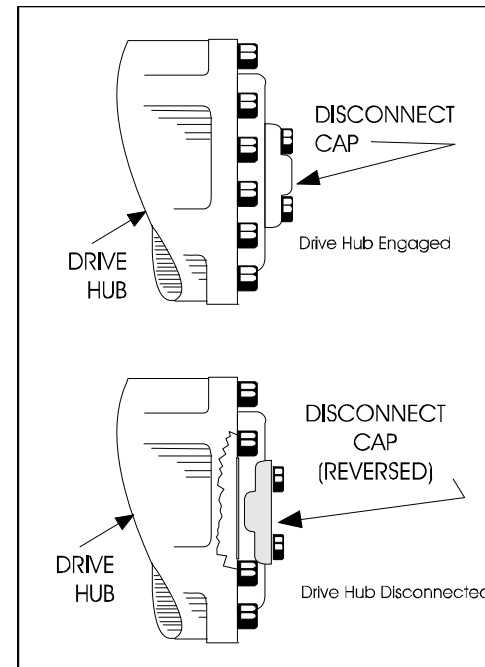

Figure 4-4. Drive Disconnect Hub
3. Disconnect drive hubs by inverting disconnect cap. Refer to Figure 4-4., Drive Disconnect Hub.